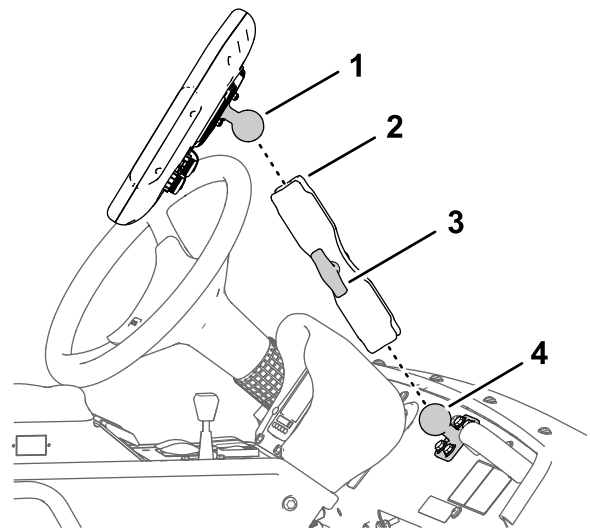

Figure 131
3. Loosen the knob of the monitor arm until you can slip both the ball pivot for the fitting at the back of the sprayer monitor and the ball pivot for the mount at the dash panel into the socket monitor arm (Figure 131).
4. From the driver's seat (left seat), adjust to position of the sprayer monitor so that you can easily view the display screen (Figure 131).
5. Tighten the knob for the monitor arm by hand (Figure 131).